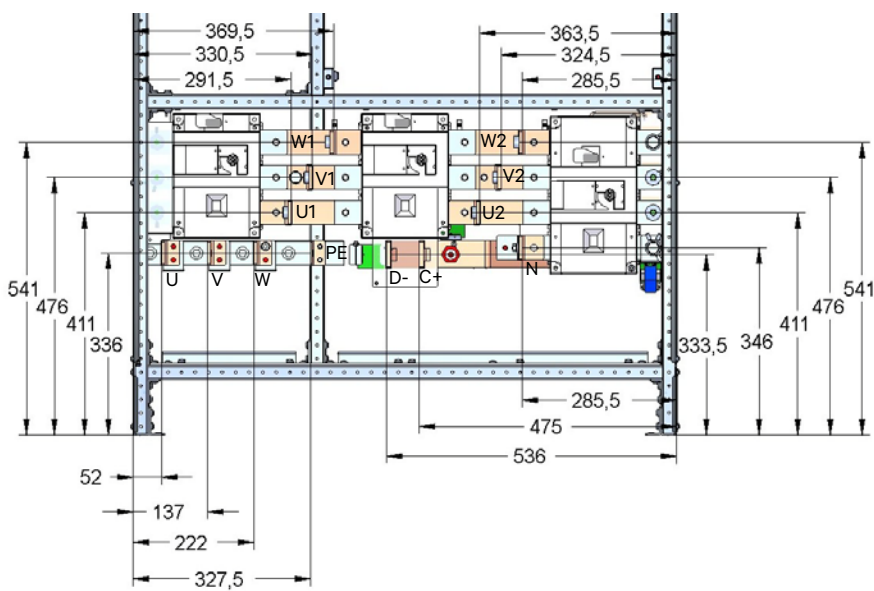
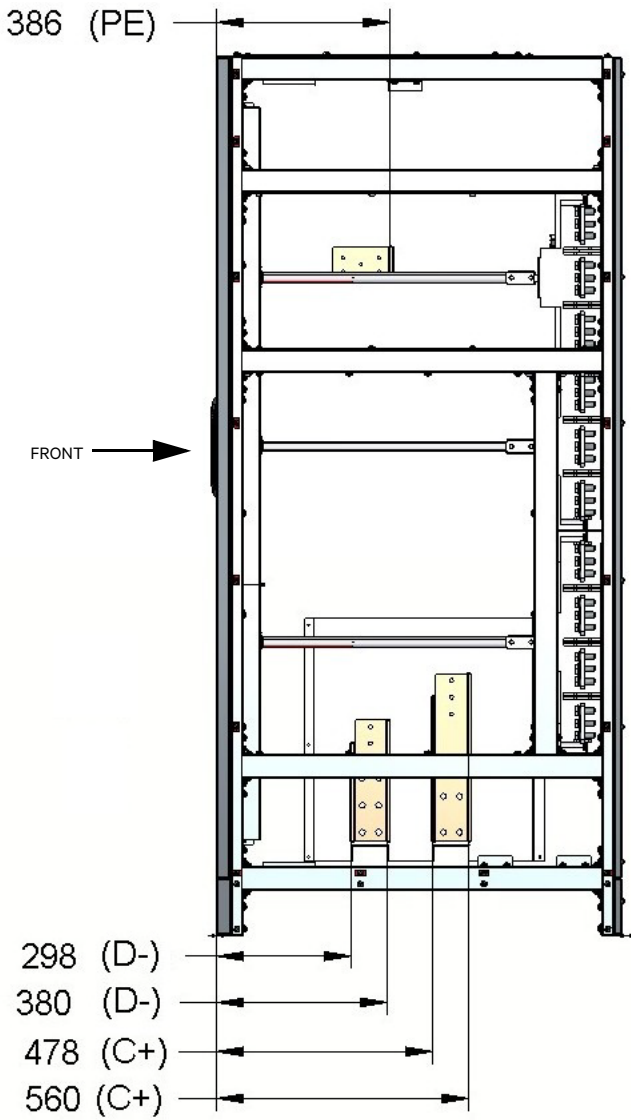
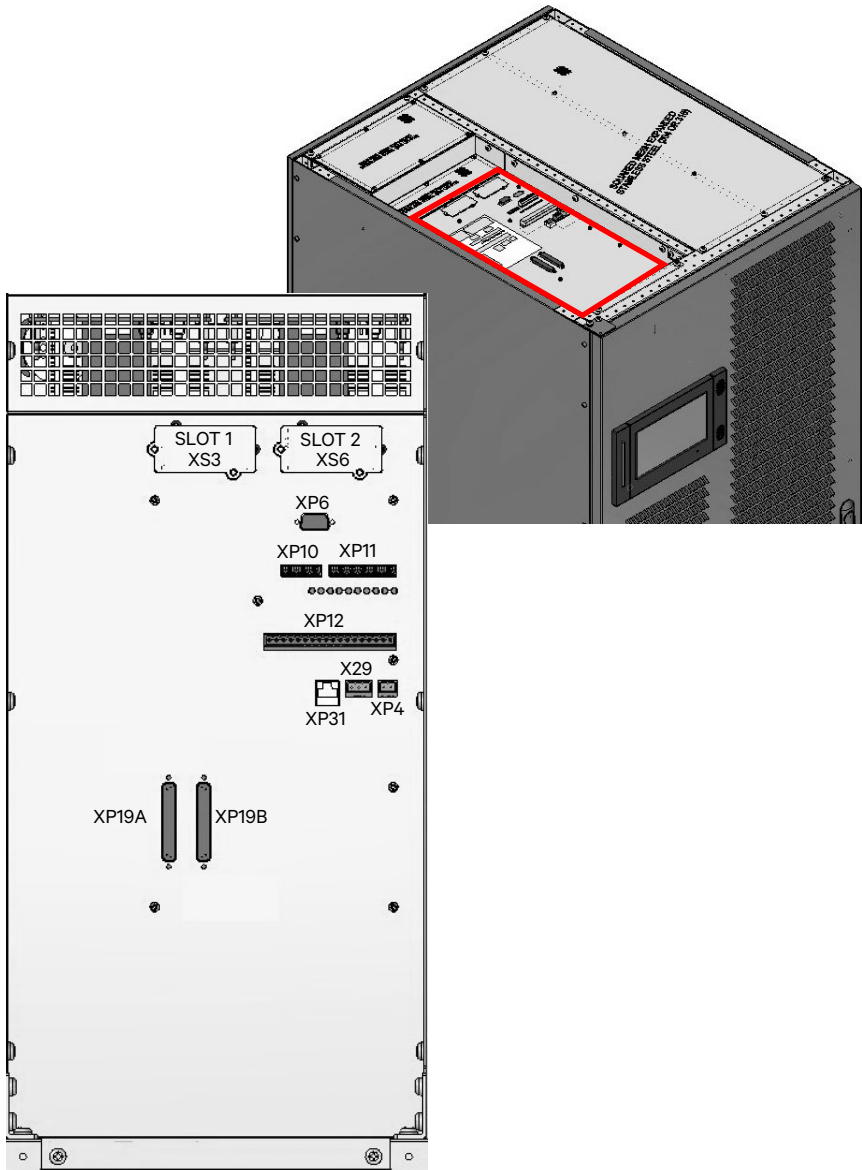

Figure 24 - Liebert EXL S1 300/400 kVA
Figure 37 - Liebert EXL S1 1000/1200kVA
Figure 40 - Customer connectivity panel
The power connections (see Fig. 24-Fig. 37) on the front of the UPS are:
- The battery cabinet should be installed adjacent to the UPS (see Fig. 24-Fig. 37 for the position of the input battery connections inside the UPS).
- Make the ground connections (PE).
- Connect the battery area temperature sensor to connector XP4 in the connectivity panel (Fig. 40).
For details about XP4 position, see Fig.40.
The customer connectivity panel is placed as shown in Fig. 40.